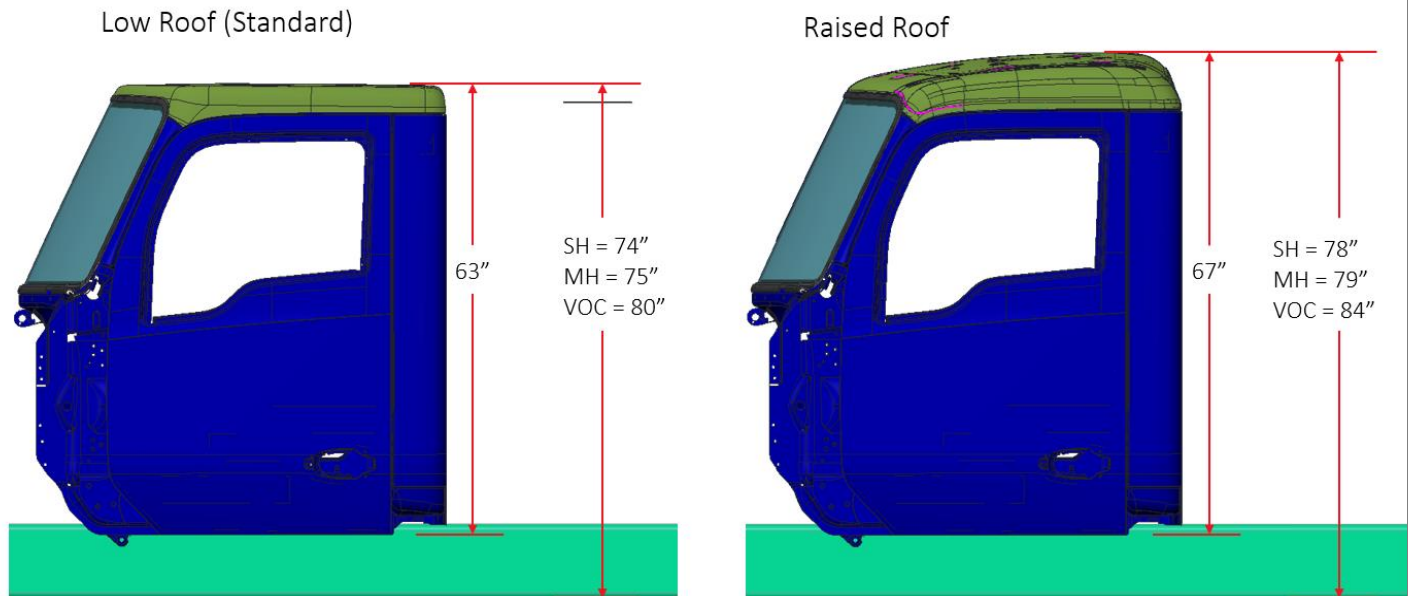

Figure 12 Low Roof and Raised Roof Cab Height 2.1m Medium Duty
- For other hoods reference Figure 12